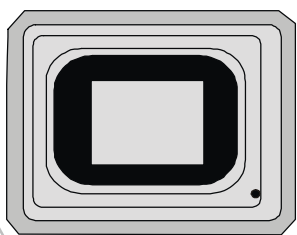

Fig. 2.1
1. Making sure you have XGA chip on hand. (as shown on above Fig. 2.1)